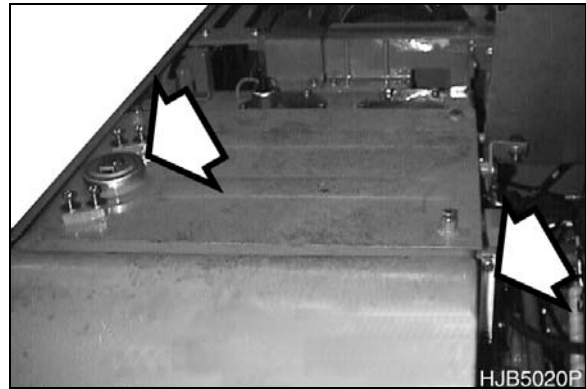

Figure 5
12. Clean area around fuel tank fill cap (Figure 5). Open fuel cap.